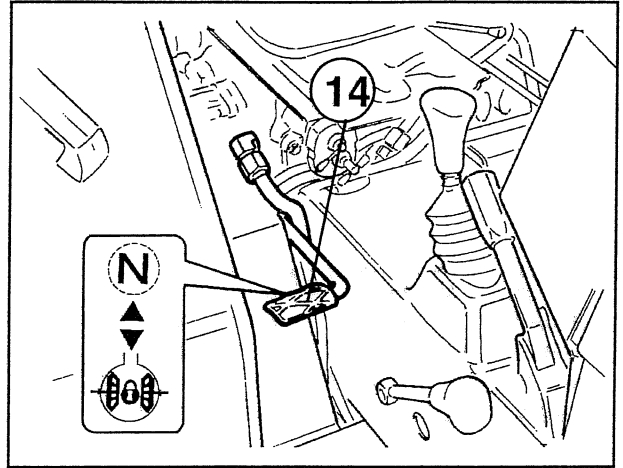

Fig. 5 Rear differential locking pedal
14) **REAR AXLE DIFFERENTIAL LOCK PEDAL** (Fig. 5)